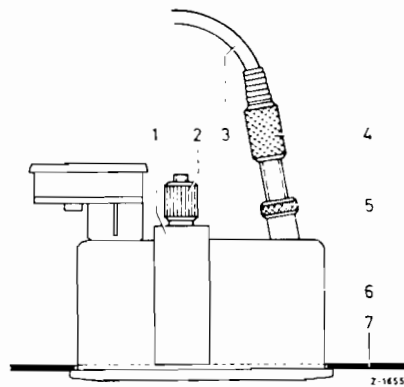

Fig. 27-4/2
Remove shift rod (4). Set range selector lever (6) and selector lever (1) to "0", in doing so make sure that between "0" stop of sleeve and selector lever a play of approx. 1 mm exists. Loosen fastening bolts for additional lever so far that the adjusting mark on its upper oblong hole is aligned with the center line of range selector lever (Fig. 27-4/1 b), tighten fastening bolts. The additional lever on model 230 SL is so adjusted that the center lines of both levers are aligned (Fig. 27-4/1 a). Press shift rod (4) on bearing pin on additional lever (5). Adjust adjusting lug (3) so that it coincides with the bearing pin on selector lever bottom section (2). Fine adjustment is possible on the two oblong holes of additional lever (5), if required. Press shift rod on selector lever bottom section (2) (Fig. 27-4/1 a).
The cable pulls (7) which operate the starter lock and reversing light switch, must be so adjusted that starting of the engine is only possible in selector lever positions "0" and "P". The starter must be locked in all other positions. In addition, the reversing lights should light up in selector lever position "R". If required, adjust on adjusting stop (8) (Fig. 27-4/1 a).
The selector lever indication is set in selector lever position "0". Cable pulls (3) from shift tube to selector lever indication can be set in length by the knurled nut (4) on selector lever indication (Fig. 27-4/2). For the purpose, loosen counternut (5) and retighten after the adjustment.